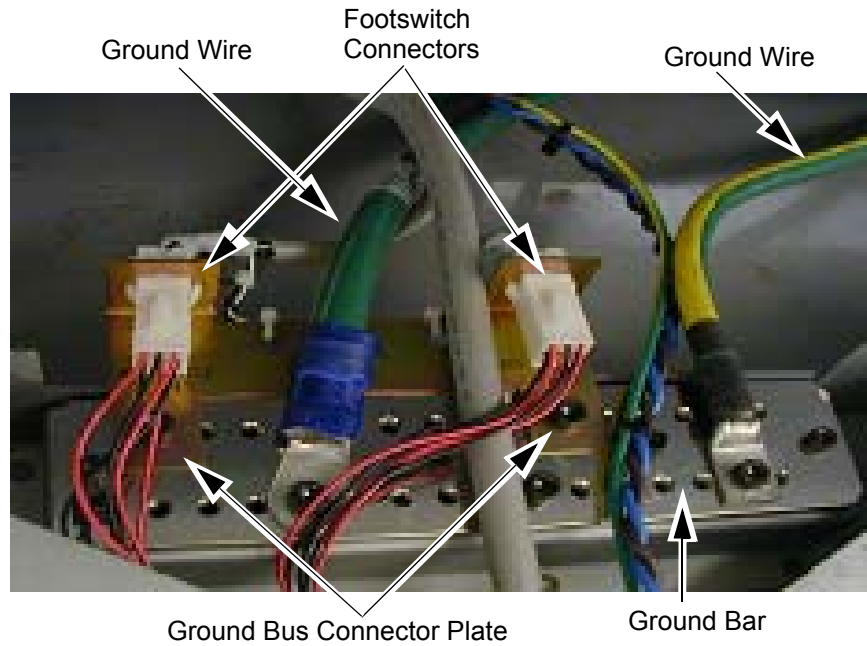

Figure 1-71 Footswitch Ground/Bus Bar
- 9.) Install the footswitch pedal bracket onto the installed ground bus bar. Connect the ground wires (not all shown in Figure 1-71) to the installed ground bus: